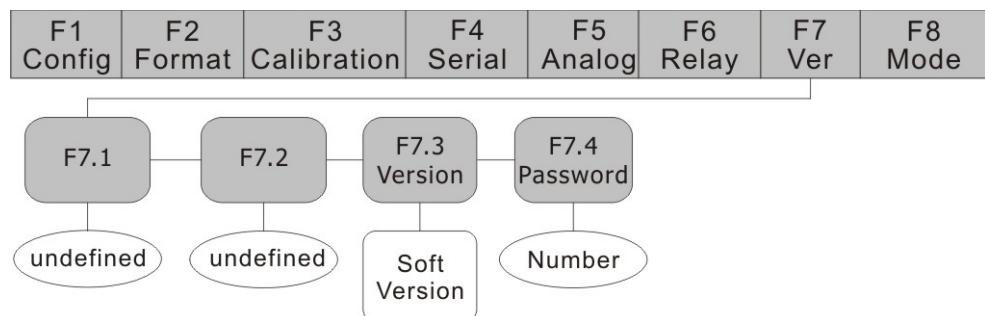

Fig.8-1 F7 (Ver) Menu
- (1) Set indicator to the Configuration mode (display shows “F 1”)
- (2) Press 【TARE】 until display shows “F 7” (see Fig. 8-1). Press 【ZERO】 to go to F7
- (2) Press **【TARE】** until display shows “F 7” (see Fig. 8-1). Press **【ZERO】** to go to F7 Menu. Display shows “F 7.1”. Press **【TARE】** three times until display shows “F 7.4”.